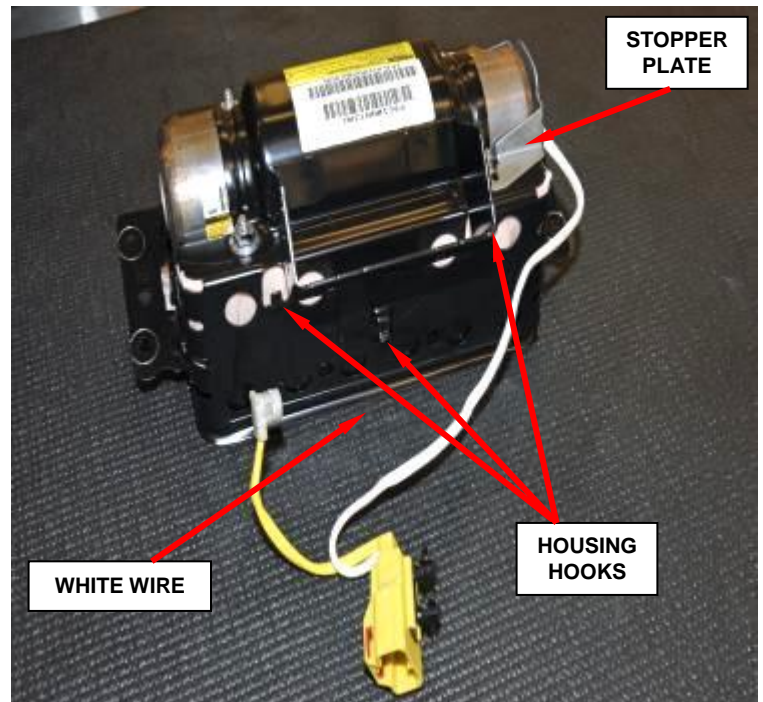

Figure 55 – White Wire Harness
- d. Release the white wire from the three housing hooks (Figure 55).
- f. Remove and save stopper plate from housing (Figures 55 and 56).